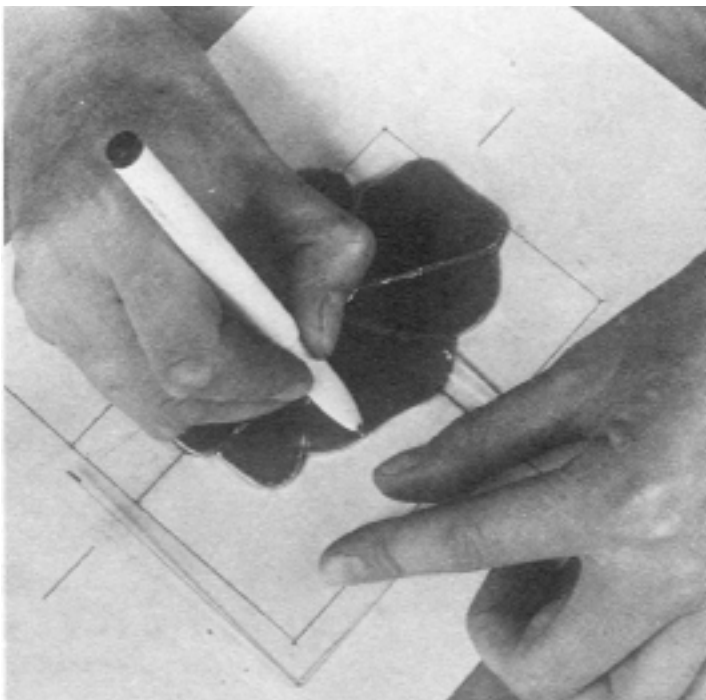

Fig 12.3
4. Place the flower back on to the pattern. Hold a piece of 2mm clear glass over the flower and mark the cutline on the glass with a felt pen (fig 12.3). Mark, score and break the four back- ground pieces in this manner. When they have been checked for fit, foil them with 5mm foil and solder the whole top together. The upper side of the lid should have beaded joints but the inside needs only to be tinned.